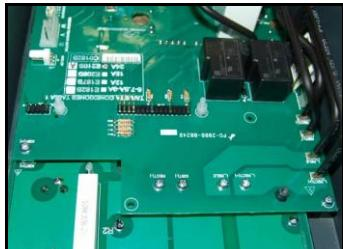

Figure 7.1.13
- 3) Remove the 6 screws **M3X6** (see figure 7.1.13)
- 2) Put the board in the proper position (see figure 7.1.13)